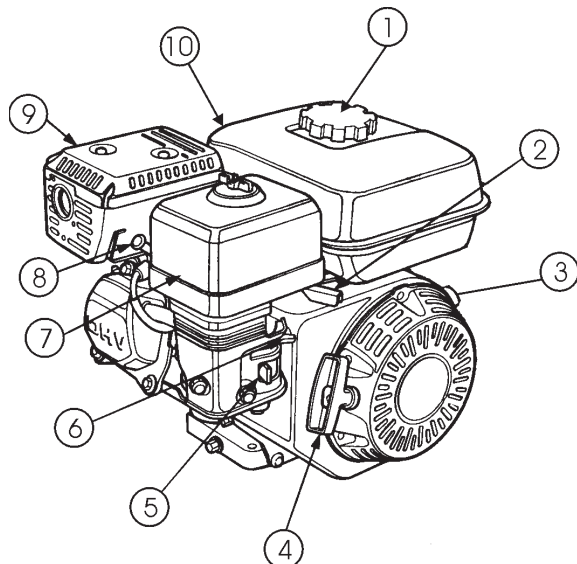

Figure 6. Engine Controls and Components
**DO NOT** tow the mixer unless the mixing drum is **completely empty**. **ALWAYS** make sure the drum latch pin is fully engaged to the **right** (Figure 6) of the drum stop block. This will keep the drum from rotating.
The engine (Figure 6) must be checked for proper lubrication and filled with fuel prior to operation. Refer to the manufacturer's engine manual for instructions & details of operation and servicing.